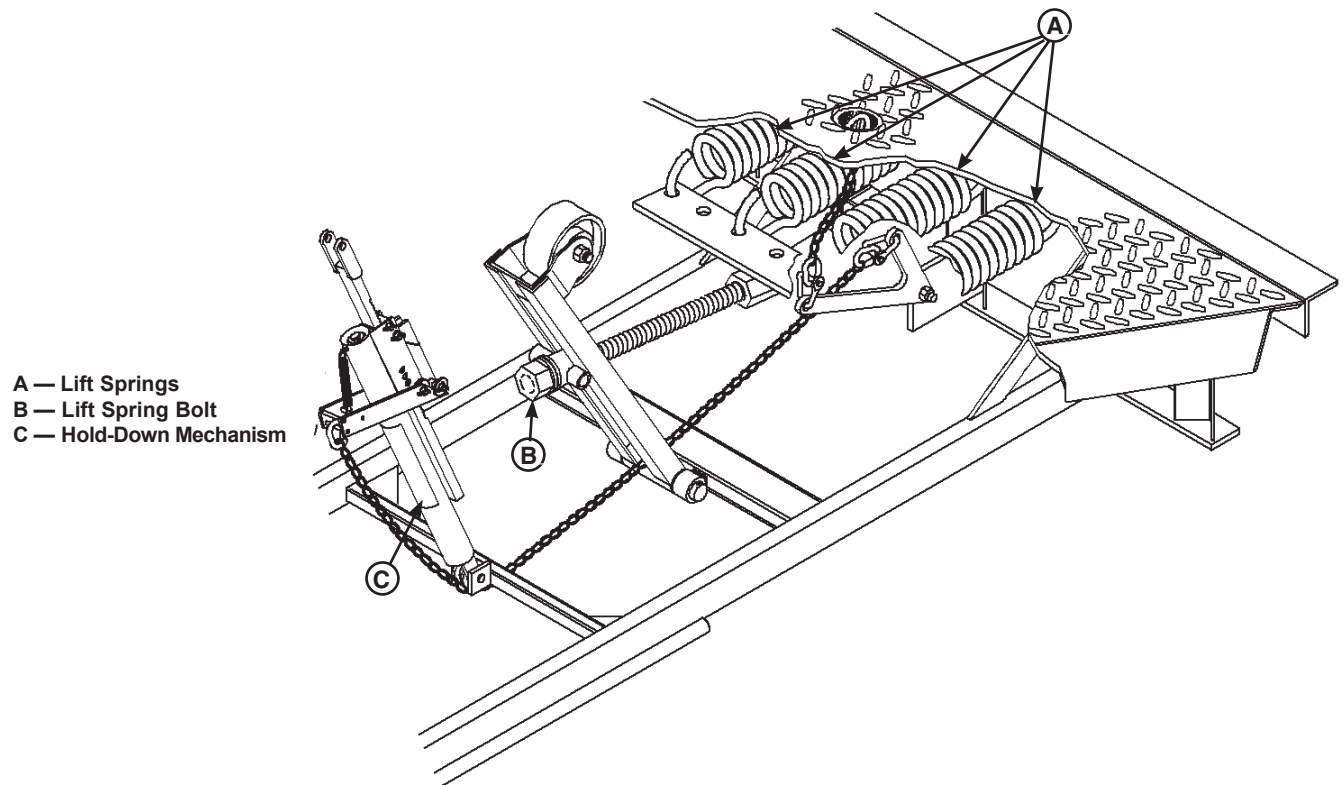

Figure 23
*When using an external lifting device to raise the platform, make sure hold-down mechanism (C, in Figure 23) is disengaged. Pull and hold platform release ring during the lifting process to avoid shearing the ratchet pawl and ratchet bar teeth.*
- To increase lift spring tension, turn lift spring bolt (B) clockwise (Figure 23).
- To decrease lift spring tension, turn lift spring bolt (B) counterclockwise.
**NOTE:** Use 1/2 turn increments when adjusting the lift spring bolt (B, in Figure 23). Check platform operation after each adjustment. Repeat until proper operation is obtained.